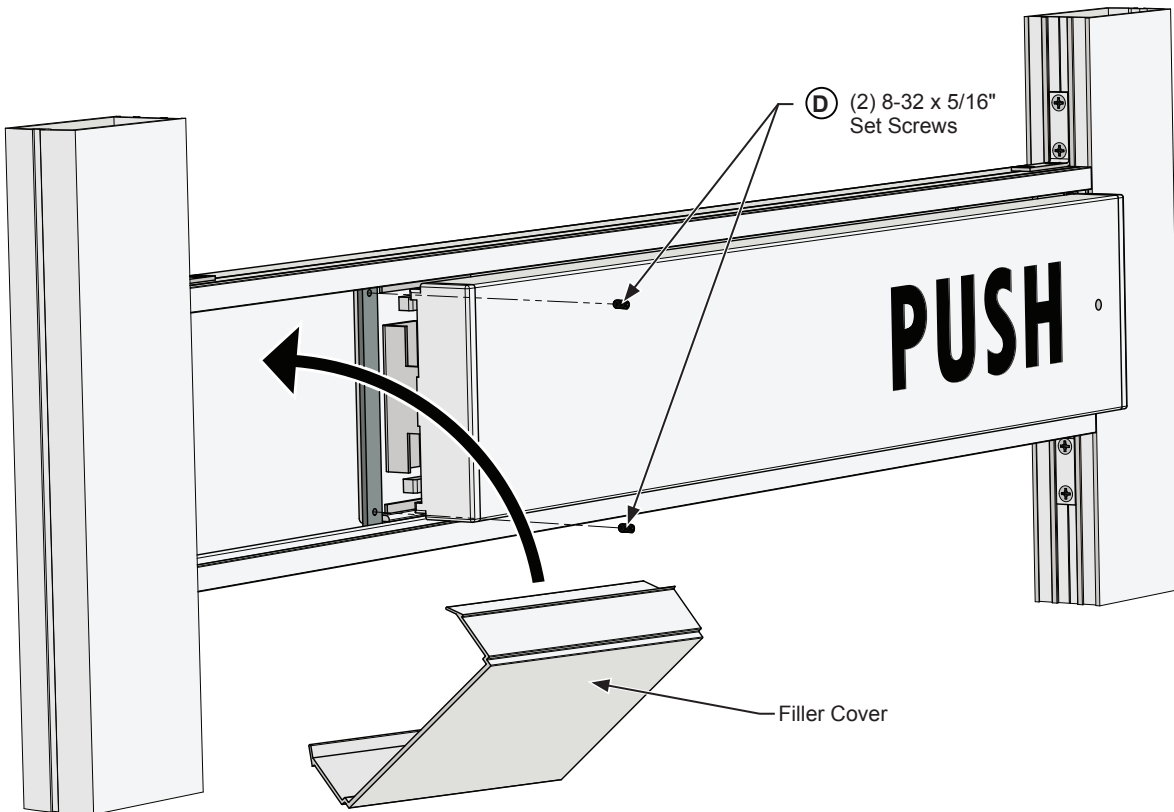

FIG. 20
2. Firmly secure the locking bar with (2) **Ⓓ** 8-32 x 5/16" set screws. Install and snap in the filler cover. **(Fig. 20)**